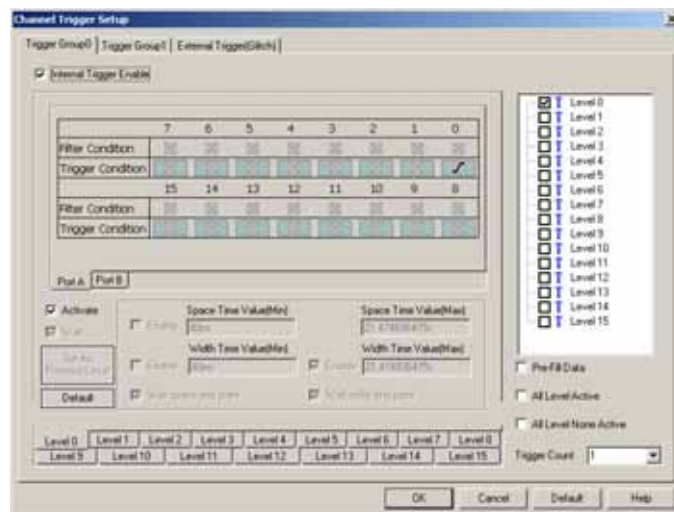

Fig4-20 – Channel Trigger Setup
Step 1. Click  icon or click Channel **Trigger Setup** from the **Trigger** on the Menu Bar. The dialog box will appear as shown in Fig 4-20.